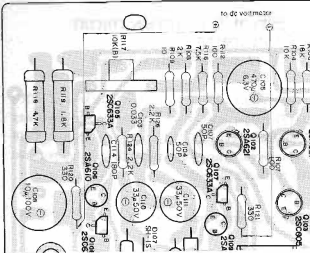

Fig. 3-3 Dc voltmeter connection point
- Touch the test-leads of dc voltmeter across emitters of Q106 and Q107, positive lead to the emitter of Q106 and negative lead to the emitter of Q107 as shown in Fig. 3-3.